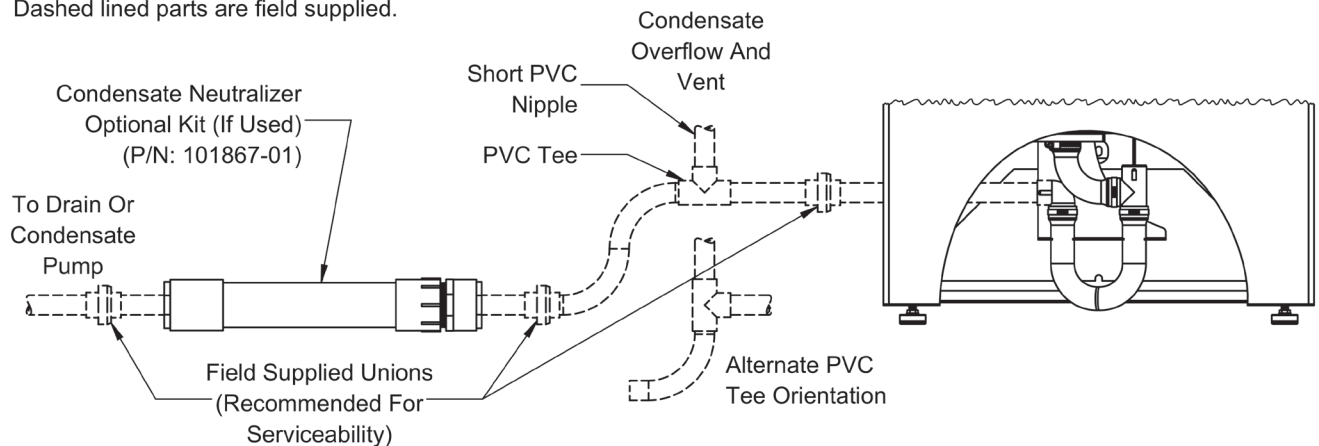

Figure 7.48 Condensate Trap Installation
All condensate which forms in the boiler or vent system passes through the heat exchanger and out of a bottom drain port which is connected to the field-installed condensate trap. This trap allows condensate to drain from the heat exchanger while retaining flue gases in the boiler. This trap is an integral part of the boiler but must be connected to a drain pipe as shown in Figure 7.48. A schedule 40 ¾" PVC elbow is supplied for field connection. Note the following when disposing of the condensate.
5. Construct condensate drain line extension using Schedule 40 ¾" PVC or CPVC. For condensate overflow and vent, install tee with one side open to atmosphere downstream of condensate trap see Figure 7.48. Slope drain line minimum ¼ in/ft (21mm/m) downward toward drain.
11. Do not attempt to move the trap from the location shown in Figure 7.48. Do not attempt to substitute another trap for the one provided with the boiler.